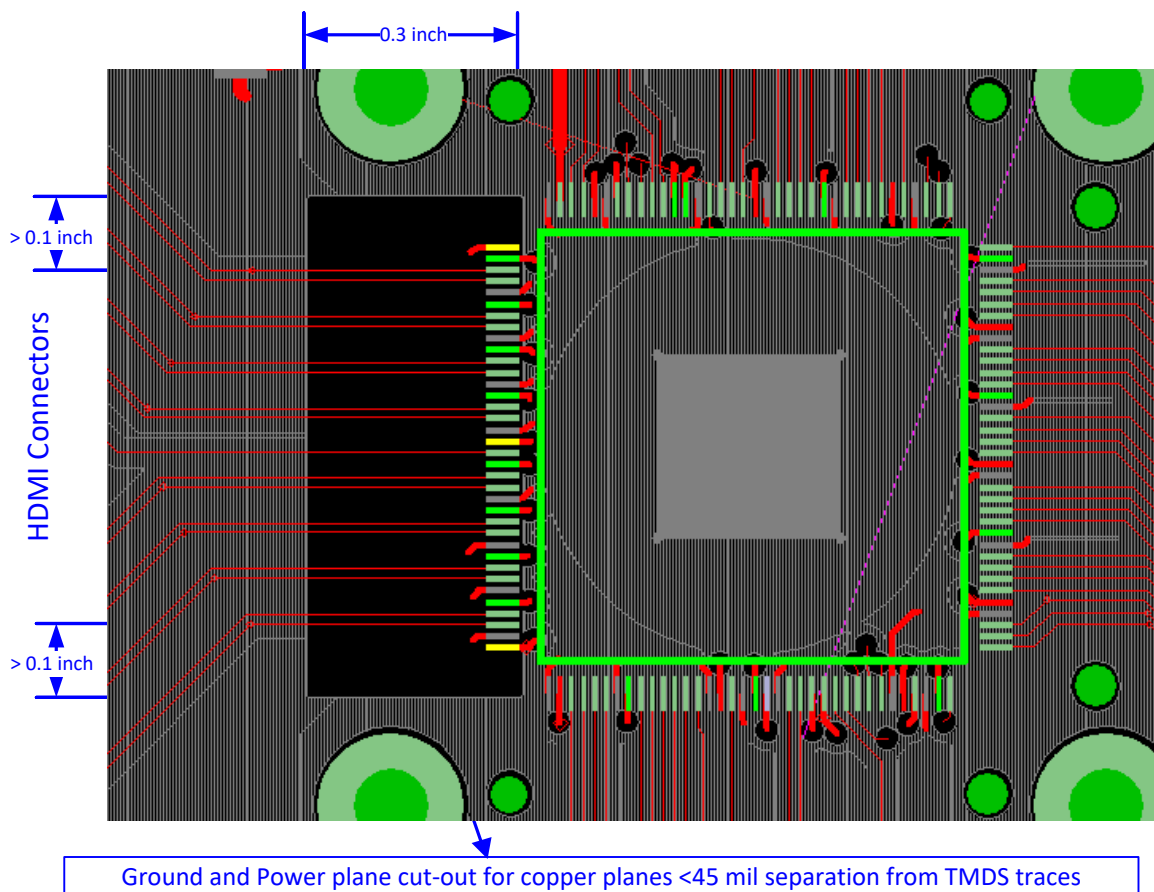

Figure 9.2. Cut-out Reference Plane Dimensions
2. Cut out all copper planes (ground and power) that are less than 45 mils underneath the TMDS traces near the receiver with dimensions as shown in Figure 9.2.